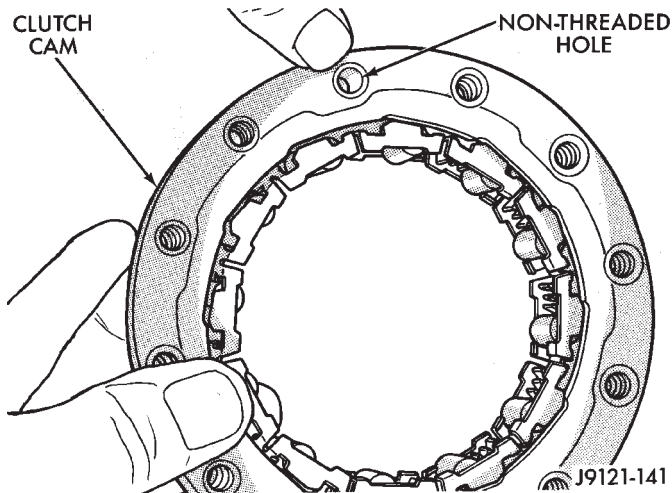
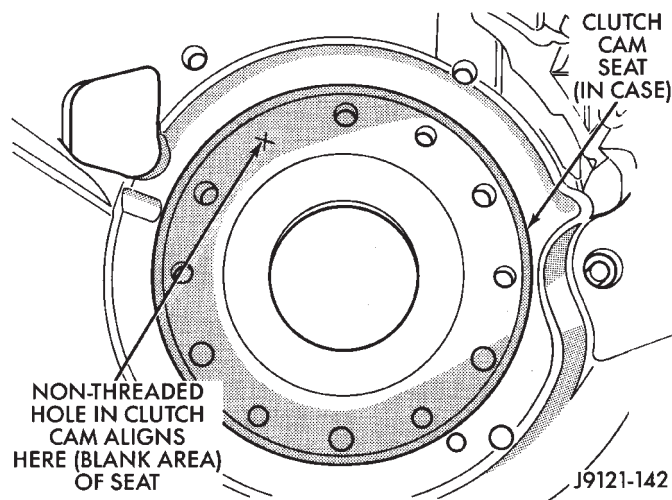

Fig. 126 Location Of Non-Threaded Hole In Clutch Cam
Fig. 127 Location Of Blank Area In Clutch Cam Seat Of Case
(1) Examine bolt holes in overrunning clutch cam. Note that one hole is **not threaded** (Fig. 126). This hole must align with blank area in clutch cam bolt circle (Fig. 127).